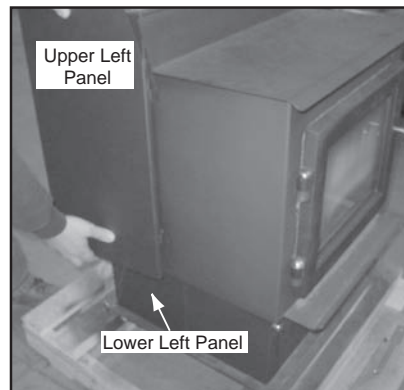

Figure 18.2
5. Remove the left upper and lower side panels by lifting up and out. The hooks on the panels will slide out of the slots on the appliance. **Figure 18.2.**
2. Remove both upper and lower right side curtains. **Figure 18.2. on page 18.**